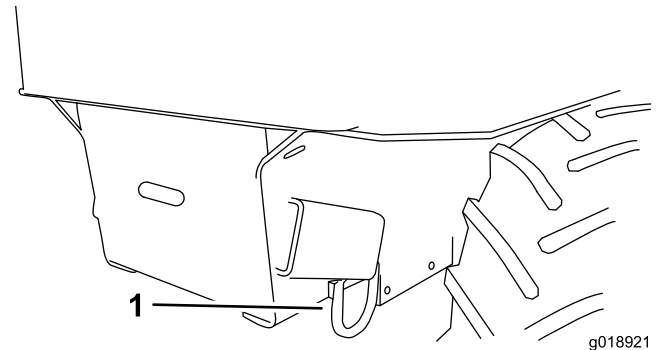

Figure 21
8. Fasten the front tie-down loops of the machine to the trailer (Figure 21).